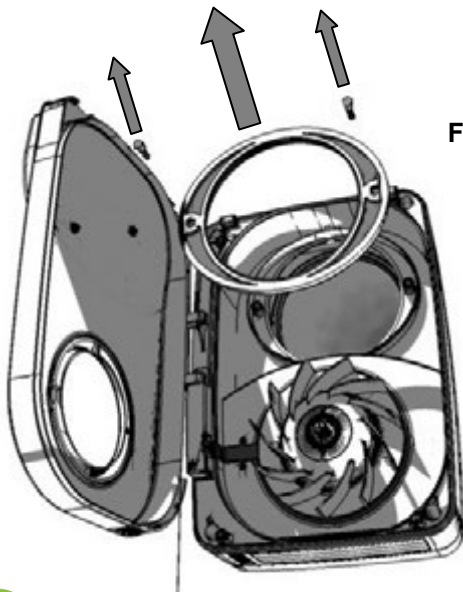

Fig.25
3. Remove Retaining Plate, Carefully slide out the Heat Exchanger Fig 25 & 26 and wash in warm water using a mild detergent, dry thoroughly and re assemble in reverse order to above.